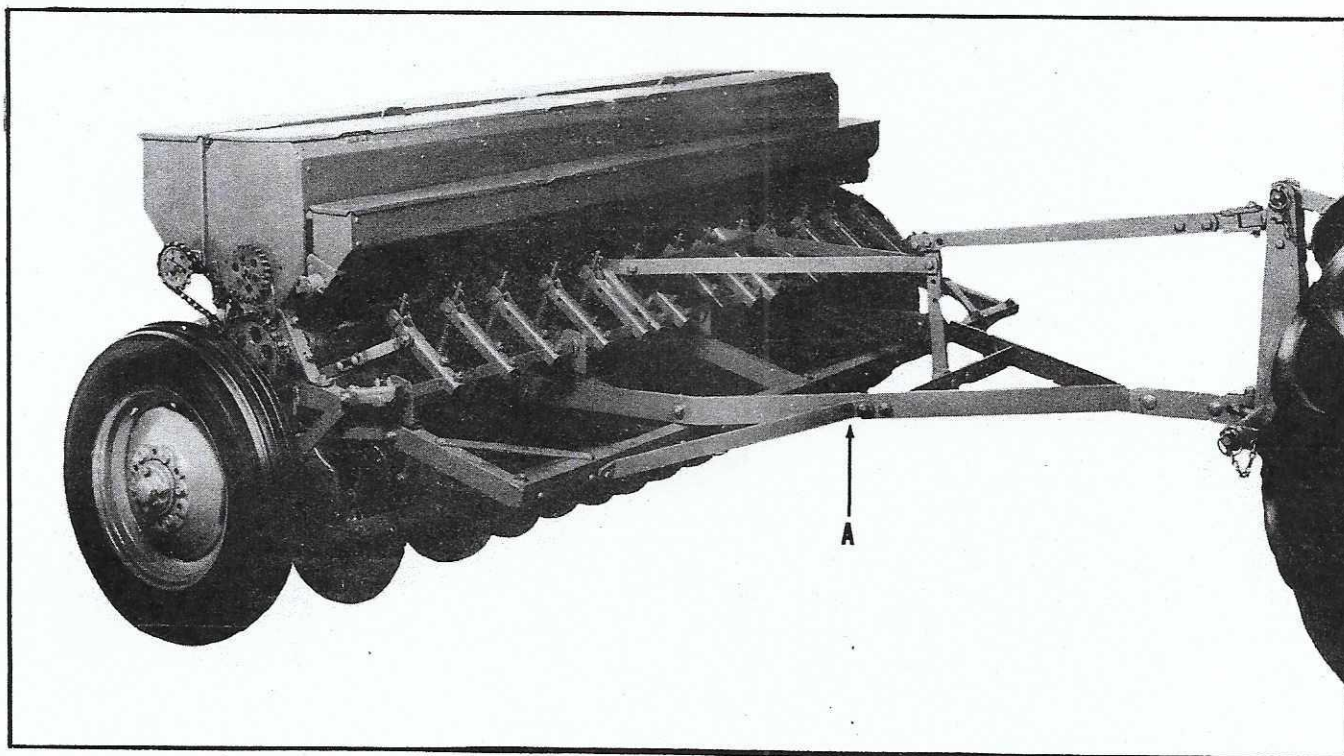

Fig. 9A
1. Assemble grain drill hitch as shown in Fig. 9A.